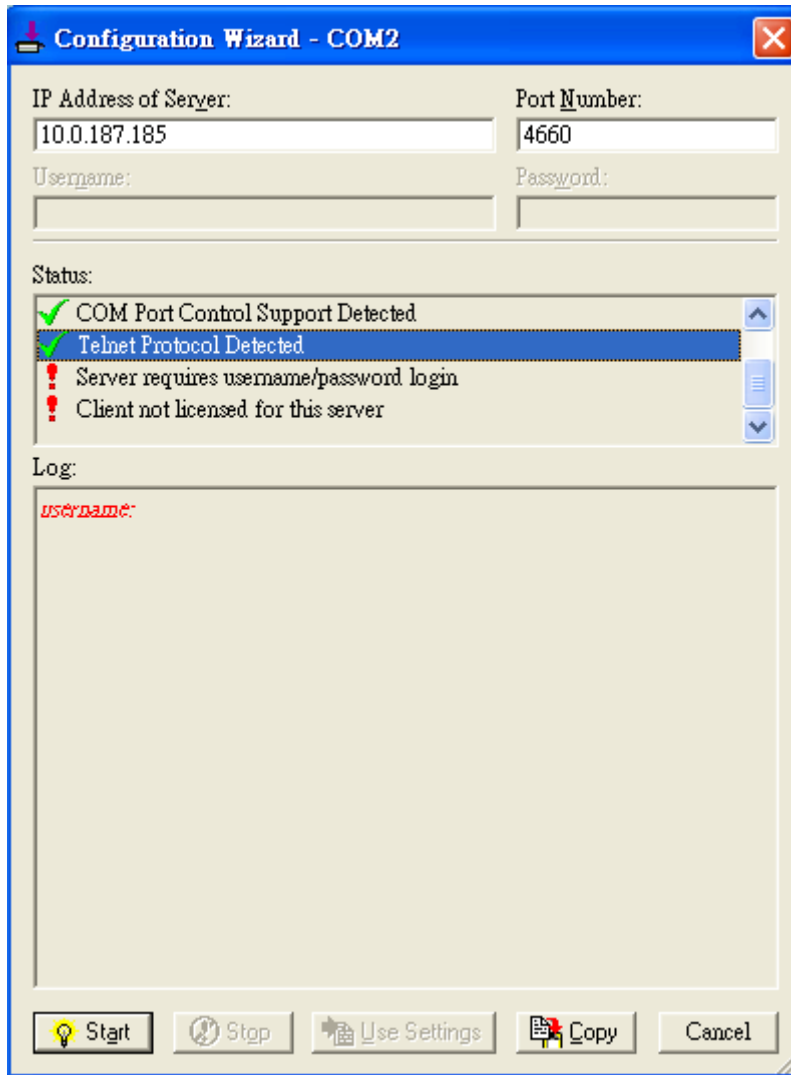

Figure 4.13 Virtual COM Credentials Exception
- d. If the exclamation mark begins with **Server requires username/password login** (Figure 4.13), it means VirtualCOM Authentication in the serial device server is enabled, but credentials in the Serial/IP is not enabled.